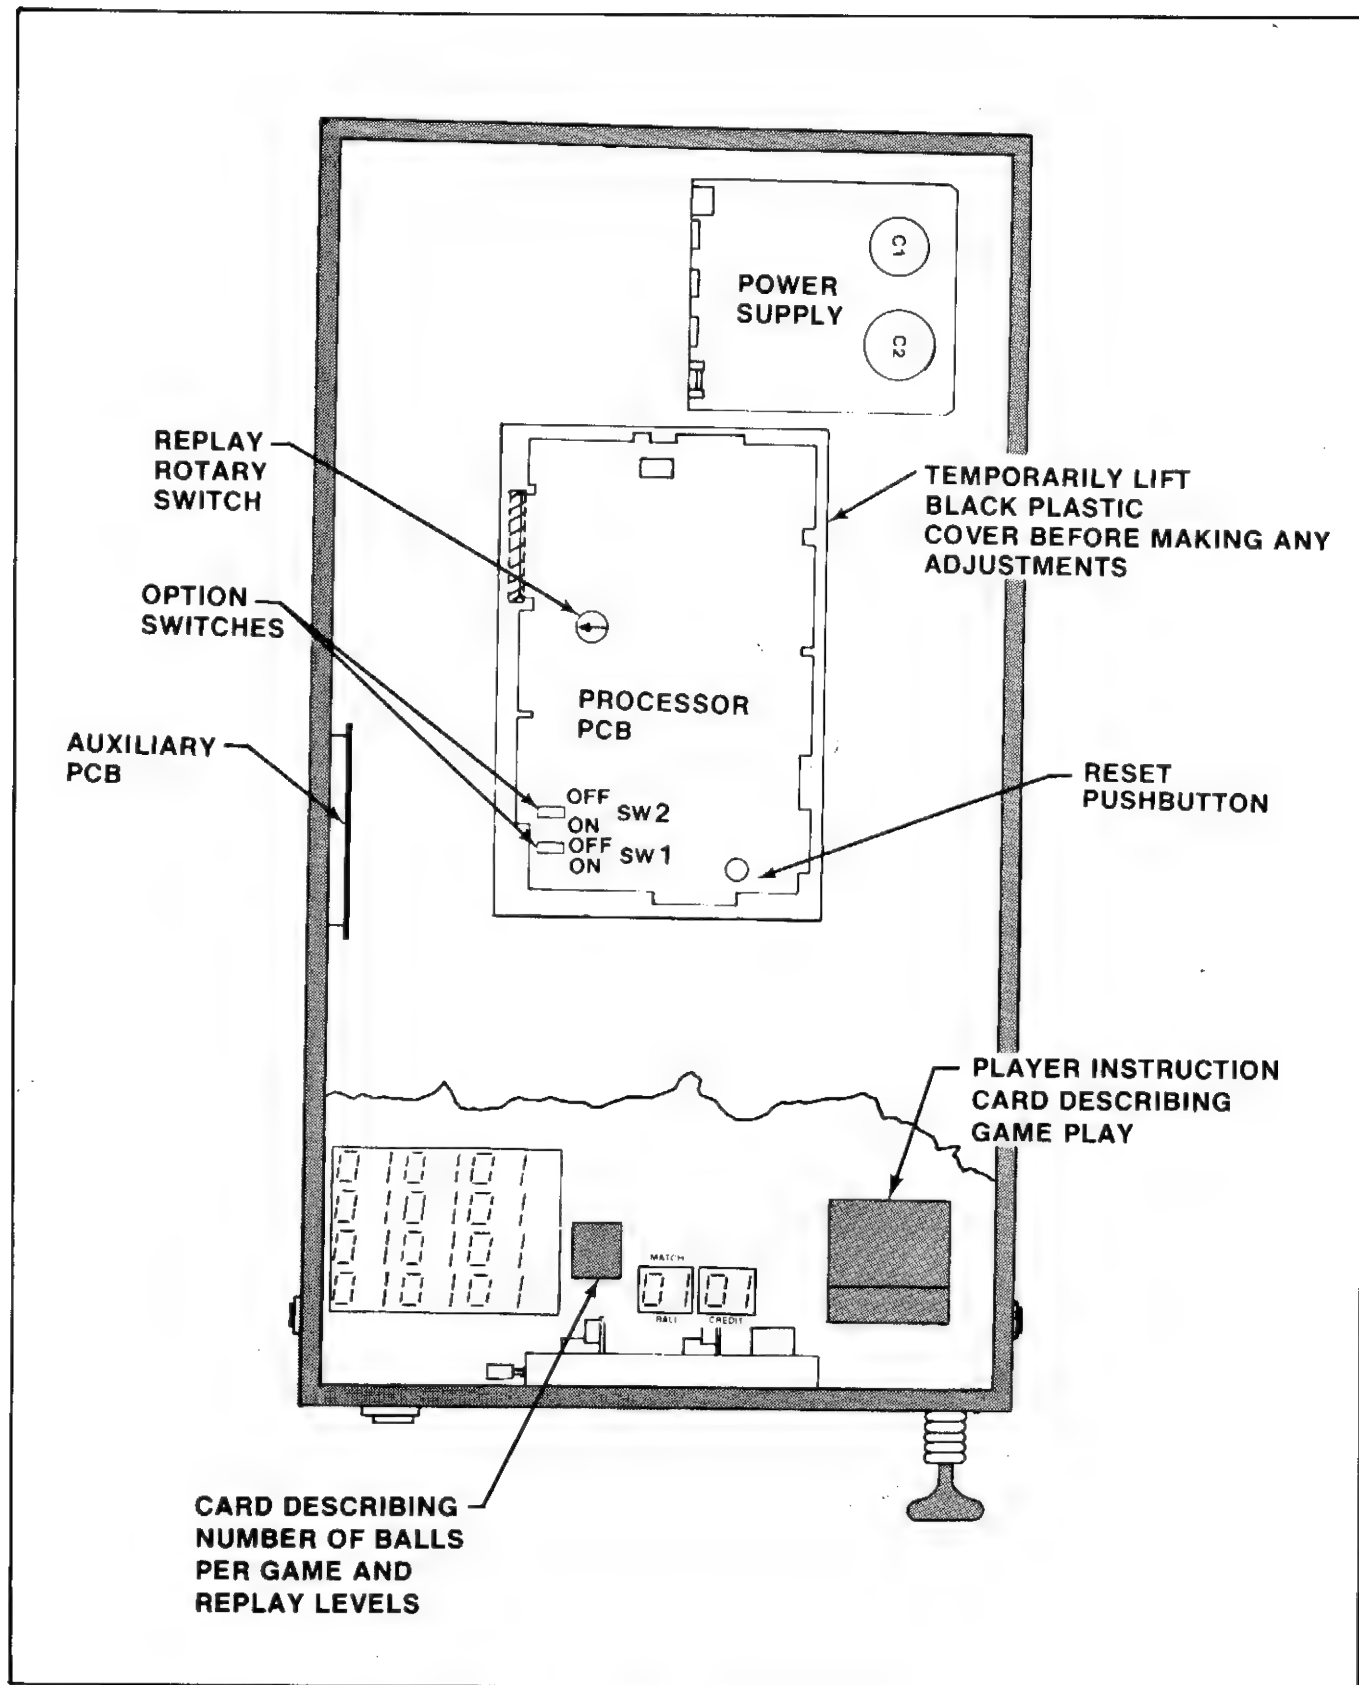

Figure 1-4 Location of Option Switches
3. Choose the proper instruction cards (from cash box) and attach to the lower arch panel butyrate as illustrated in Figure 1-4.
All the options are selectable by merely flipping a switch. Refer to Self-Test Procedure in Table 1-1. Table 1-1 also lists all the options and the switches necessary to set those options. In these tables, all manufacturer suggested settings are marked with dollar signs. Figure 1-4 shows the location of each switch on the Processor PCB (printed circuit board). To set the switches, slightly press down on the selected switch toggles with a small pointed object. To set the toggle to on, press on the switch side toward the closest end of the Processor PCB.